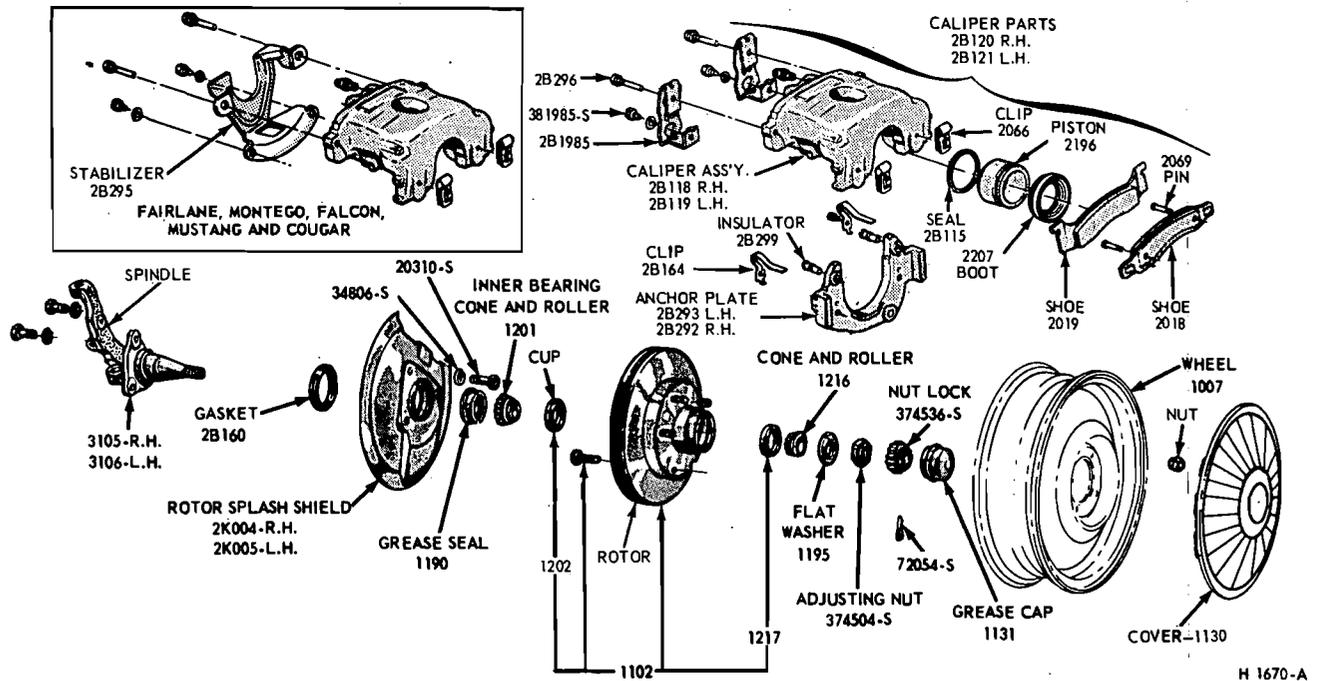

FIG. 23—Disc Brake—Disassembled—All Models Except Lincoln
4. Slide the two outer shoe retaining clips off the retaining pins (Fig. 23).
1. Remove the wheel and tire from the hub (Figs. 23 and 24). Be careful to avoid damage or interference with the bleeder screw fitting. On Lincoln Continental models be careful to avoid damage to the caliper splash shield or transfer tube.
fied grease (M-1C75B), and install the inner bearing cone and roller assembly in the inner cup. Pack grease lightly between the lips of a new grease seal and install the seal (Figs. 23 and 24).
2. Remove the three bolts that attach the splash shield to the spindle, and remove the shield (Figs. 23 and 24).